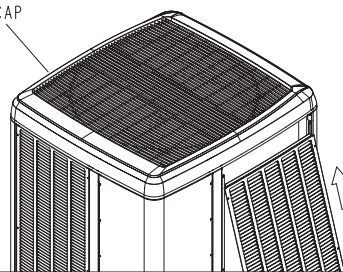

FIGURE 6. Removing and Installing Panels
- 2 - Install the brackets as illustrated in figure 6, detail D using conventional practices.